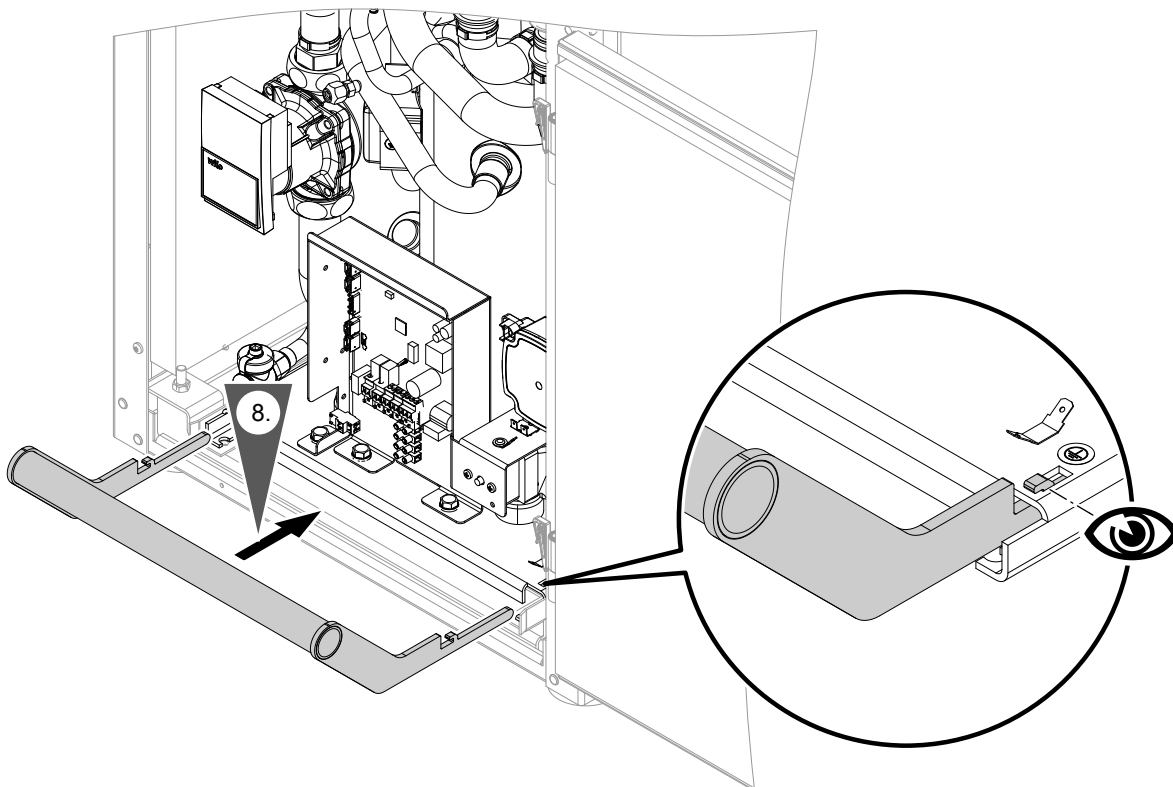

Fig. 8
1. Insert both brackets of the transport aid at the front and rear of the heat pump module: See Fig. 8 on page 16.